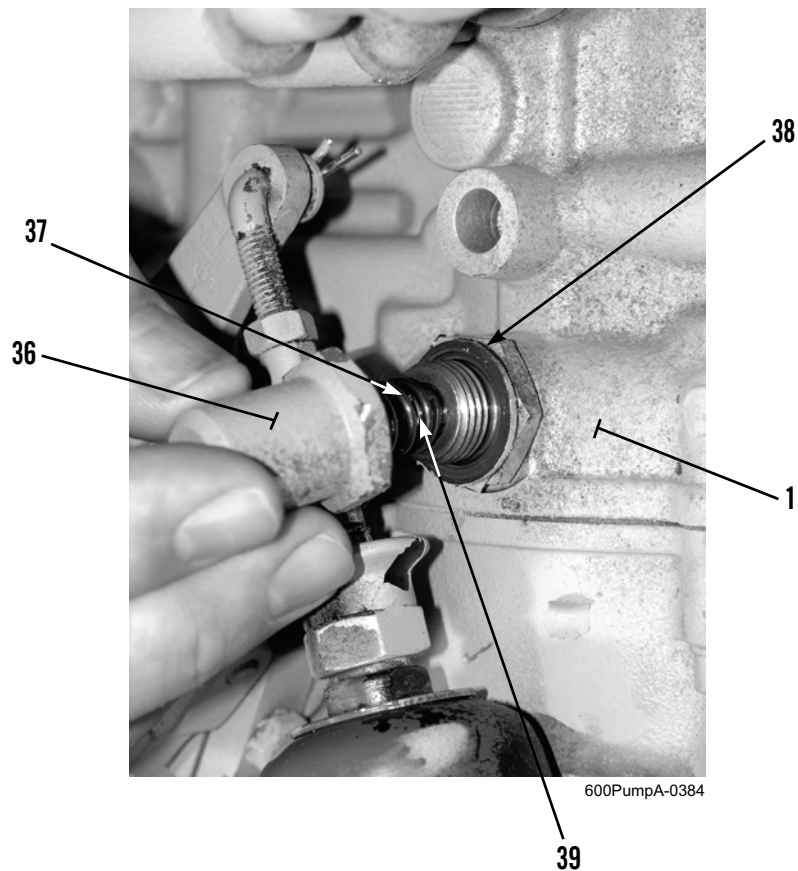

Figure 19. Removing Positioning Pin.
9. Remove bolt sleeve (Figure 19, Item 36), copper sealing ring (Figure 19, Item 38), compression spring (Figure 19, Item 37), and positioning pin (Figure 19, Item 39) from fuel injection pump (Figure 19, Item 1).